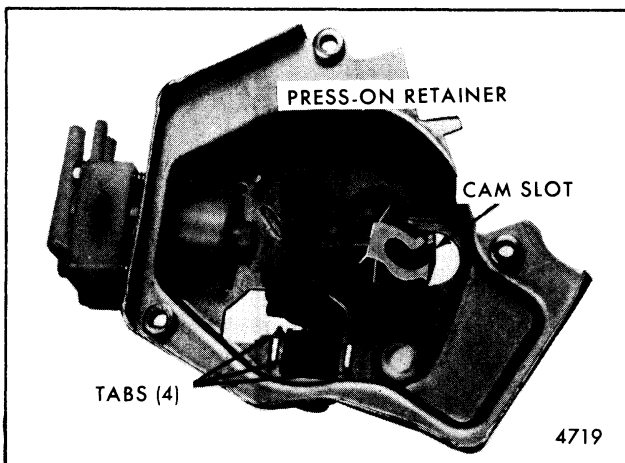

Fig. 2-70-Removing Four Lobe Cam
1. Remove the push-on retainer and slide cam off shaft (Fig. 2-70).
4. Chisel off the four bent-over tabs that secure the coil mounting bracket to the base (Fig. 2-70). Remove relay coil and terminal board assembly. To mount a replacement relay assembly, hold it securely against the base mounting surface and bend locking tabs over.